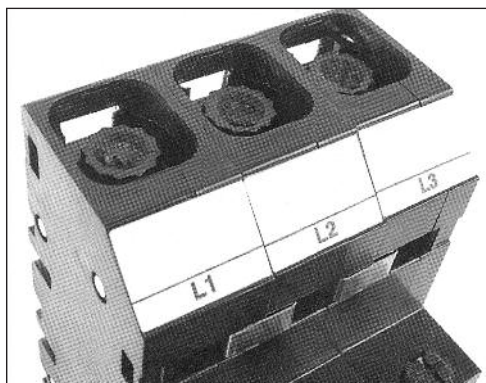

Fig 3
- b The top half of the hexagon head will shear off (Fig 3) when the required tightening torque (20Nm for 250A and 28Nm for 400A/630A) is reached.